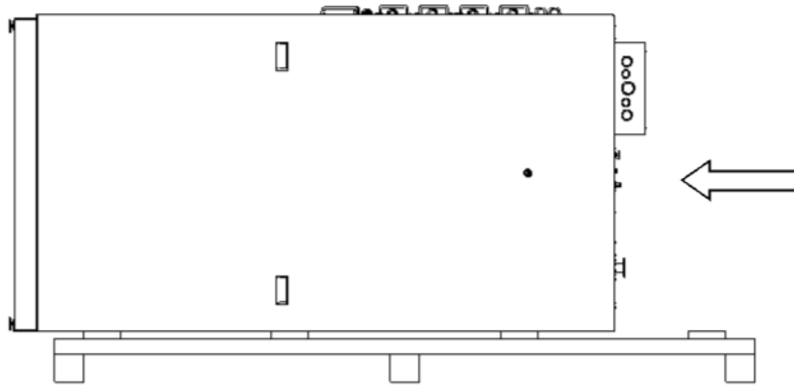

Figure 4: Slide Cabinet So Base Hangs Over Edge of Crate Base
First, slide the cabinet so that the bottom of the cabinet hangs over the edge of the crate base by approximately six (6) inches. See Figure 4.